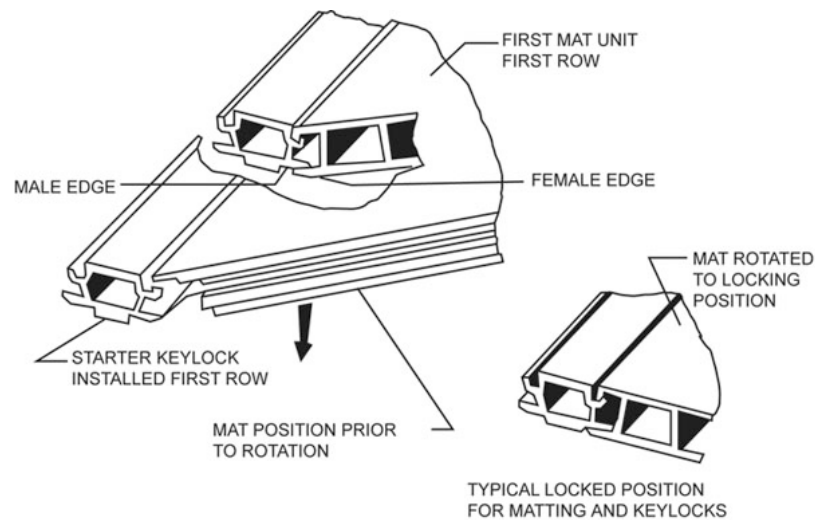
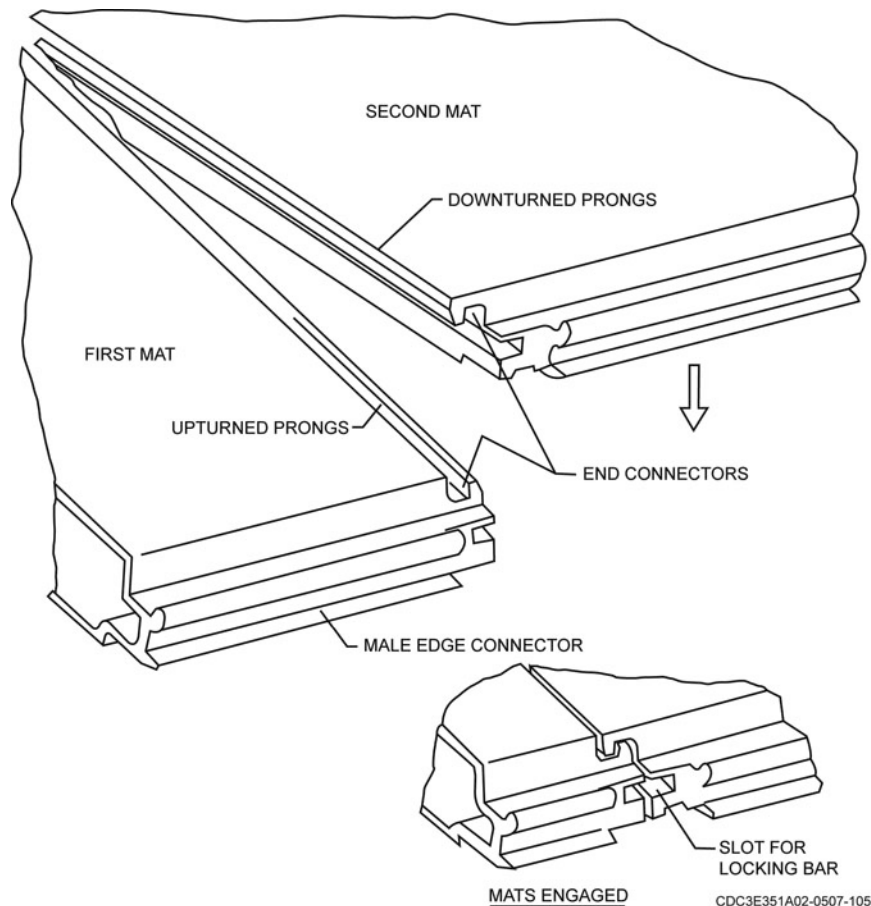

Figure 3-4. Connecting mat to starter keylock.
Figure 3-5. Locking bar end joint.
1. Starting with the full-size mats, connect a row of four 12-foot mats and one 6-foot mat to the keylock (laying from left to right). Figure 3-4 shows the first row connected to the starter keylock. Insert the locking bar at each end joint (fig. 3-5), as well as a locking bar at both of the towing tube connections. Now lay a second row using the same procedures but start with the 6-foot mat. (**NOTE:** The minimum required length of the patch is 77 feet 6 inches (including ramps), but may be longer, depending on the size of the crater. The 54-foot width is constant.)